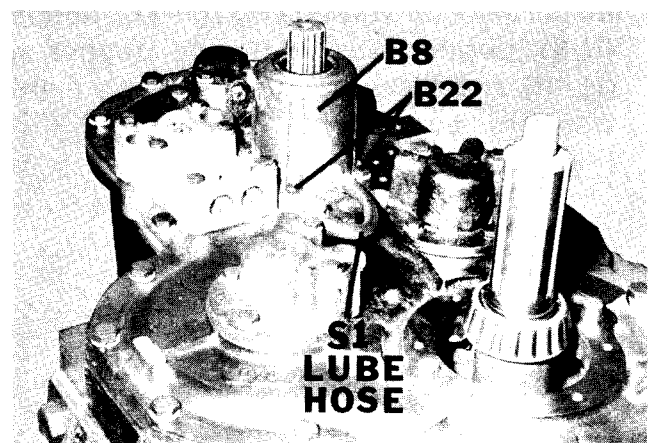

Figure 57
18. Install cover (B-8) with O ring, ball bearing and oil seal using four lockwashers and four capscrews (B-22). (Figure 57).